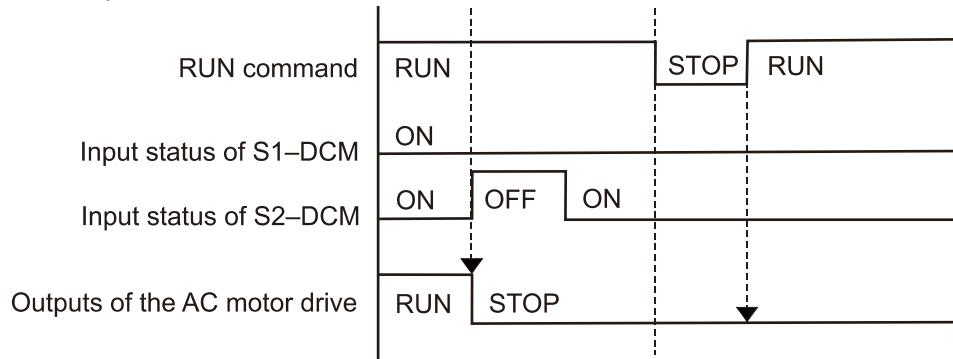

Figure 9
As shown in Figure 9, when S1–DCM is ON during operation (STO function is not required) and S2–DCM is OFF (STO function is required), the drive stops outputting and the keypad shows the STL2 error. However, you cannot reset the STL2 error even if the S2 status is restored (ON) regardless of the parameter setting. You must cycle the power to reset and to restore the drive to the normal standby state.